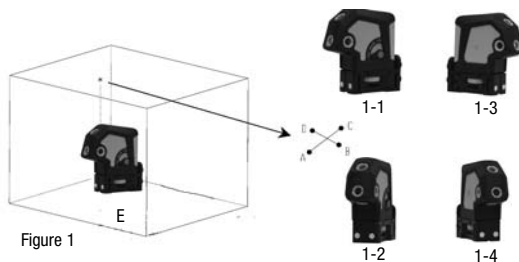

Figure 1
1. As shown in figure 1, put the unit on the ground in the direction shown in figure 1-1.
1. Set the instrument on a level surface such as a flat head tripod located between two walls (marked 1 & 2) approximately 25 feet apart. (See fig. 1). The laser should be as close as possible to wall 1.